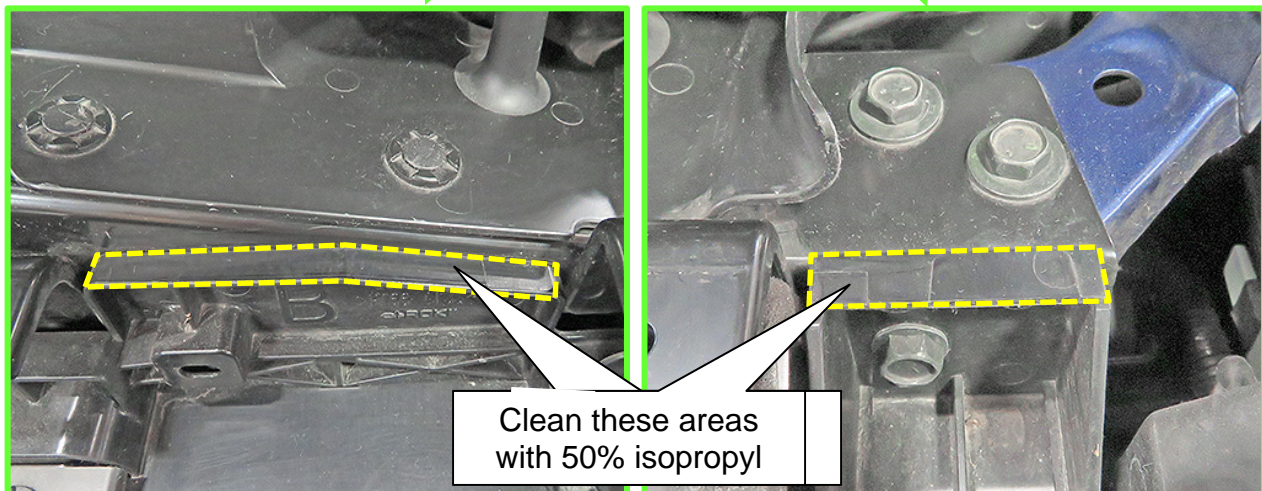

Figure 5
9. Clean the areas of the radiator mounting bracket, shown highlighted in Figure 5, with 50% isopropyl alcohol.